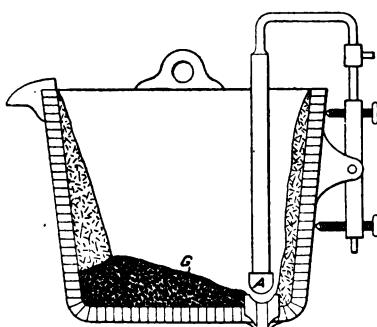

Fig. 8.
**The Casting Ladle.** The general shape and arrangement of the casting ladle is shown in Fig. 8. The shell is made of iron plate and is lined with a layer of brick and upon this is pounded moist loan. The bottom G is made of rammed ganister material. The pouring hole is fitted with a cylindrical brick nozzle, with a hole 2 to 4 inches in diameter. The stopper A sets upon a bowl shaped seat. The stopper and stopper slide are shown in the figure. The end of this stopper, which fits the seat, is made of plumbago. The lining of the casting ladle lasts about 40 blows. A new nozzle and stopper is put in about every fourth blow.